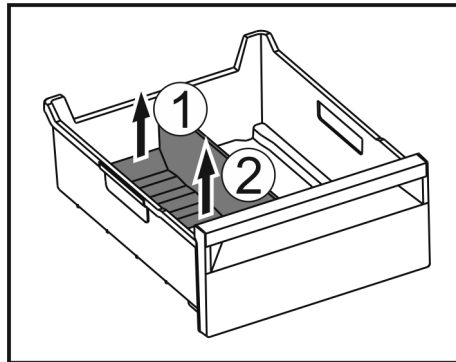

Fig. 54
- ▶ Lift the rear part of the ice compartment divider. Fig. 54 (1)
- ▶ Remove the ice compartment divider upwards. Fig. 54 (2)